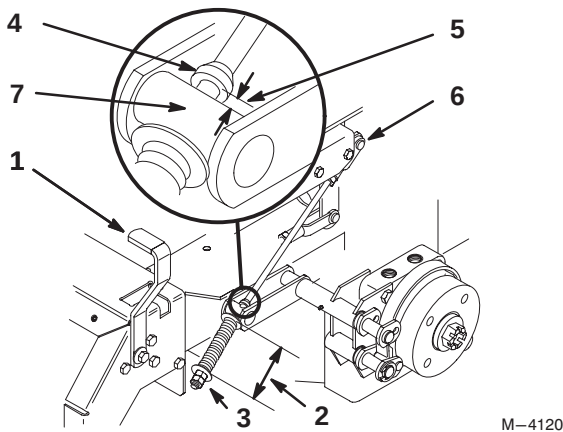

Figure 63
2. Measure the length of the spring. Measurement should be 2.75" (70 mm) between washers (Fig. 63).
3. If adjustment is necessary, loosen the jam nut below the spring and tighten the nut directly below the yoke (Fig. 63). Turn the nut until the correct measurement is obtained. Tighten the two nuts together and repeat on opposite side of unit.
6. Measure the distance between the trunnion roller and the collar on brake rod . Measurement should be 3/16"–1/4" (5–7 mm) (Fig. 63).
7. If adjustment is necessary, loosen the jam nut directly below the yoke. Turn the bottom adjusting nuts until the correct measurement is obtained (Fig. 63). Tighten jam nut at yoke